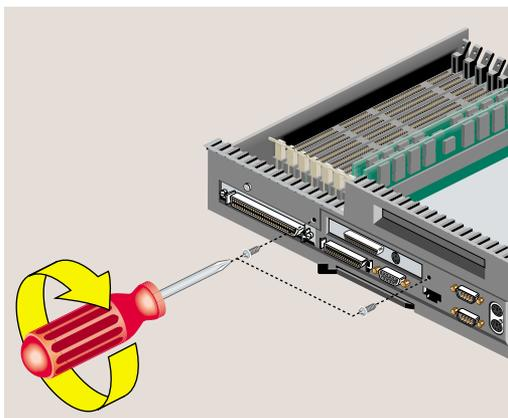

Figure 2-40 Installing the Two Screws
6. Insert and tighten two screws in the locations shown (Figure 2-40).